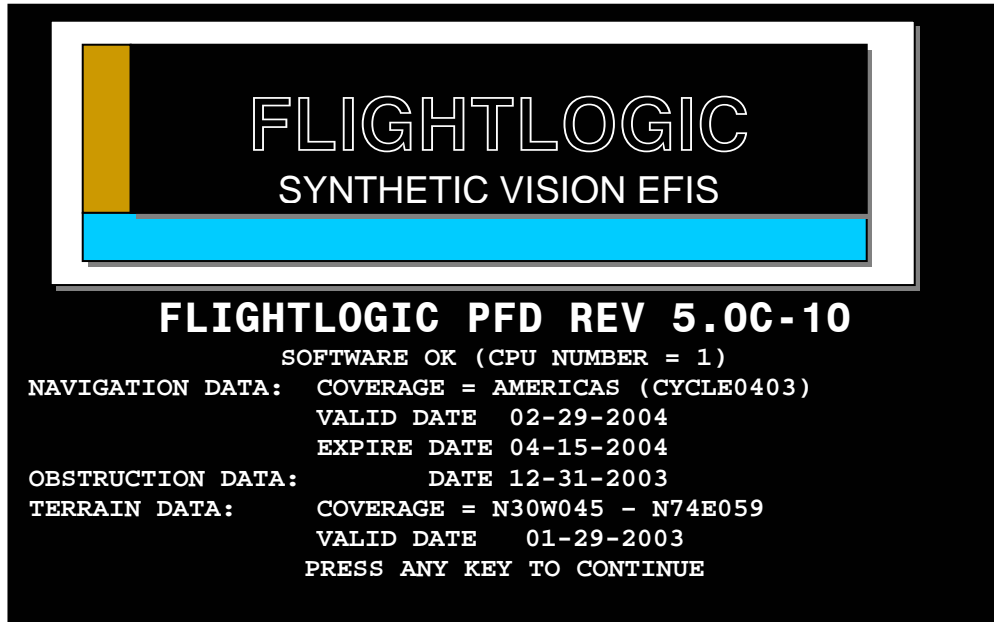

Figure 3 Typical EFIS Status Page
2. Verify the information listed below is displayed on each modified IDU status page (See Figure 3):